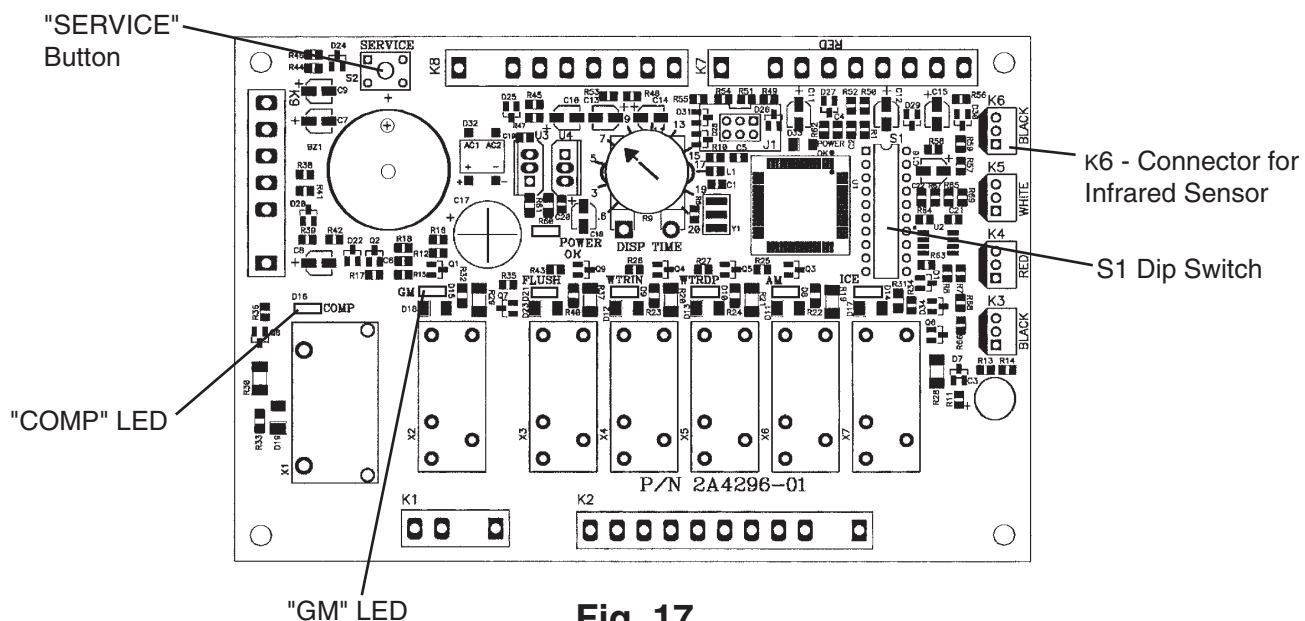

Fig. 17
- 6) Make sure the "GM" LED on the control board is on. See Fig. 17. There is a delay of at least 30 seconds before the "GM" LED turns on after power-up. After the "GM" LED turns on, press the "SERVICE" button on the control board to bypass the 5-minute compressor delay. **WARNING! Risk of electric shock. Care should be taken not to touch live terminals.** The "COMP" LED turns on.